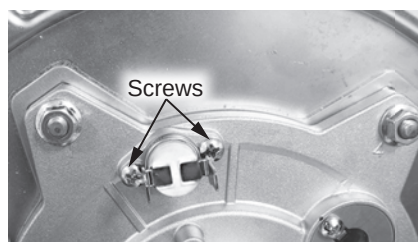

Figure 24 - Hi-Limit screw removal
- 5 Use a Phillips screwdriver to remove the two (2) screws securing burner door hi-limit to the burner assembly. Place screws aside in a safe place for reinstallation. See Figure 24.